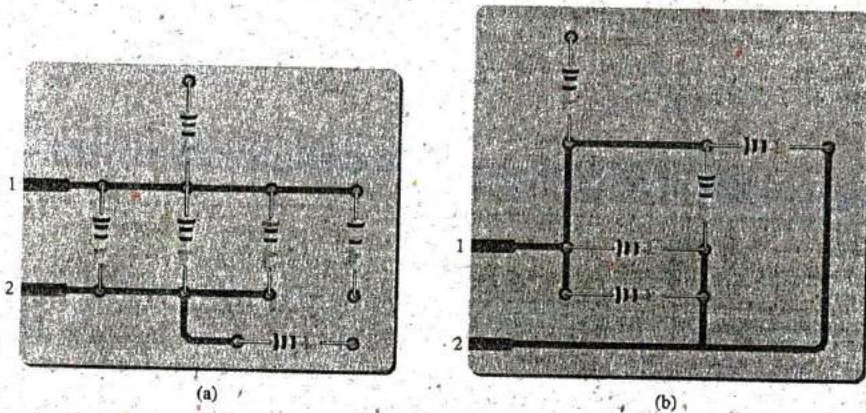

FIG. 6.74
4. For each circuit board in Fig. 6.74, find the total resistance between connection tabs 1 and 2.